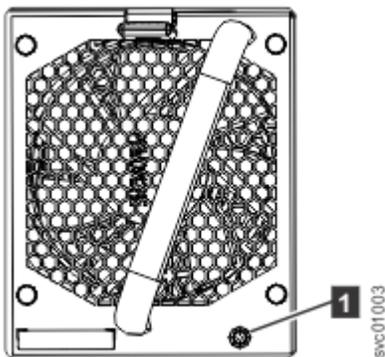

Figure 169. Fan module LED
1. Identify the fan module to be replaced. When lit, the amber LED on the front of the fan module (1 in Figure 169 on page 223) identifies a fault.